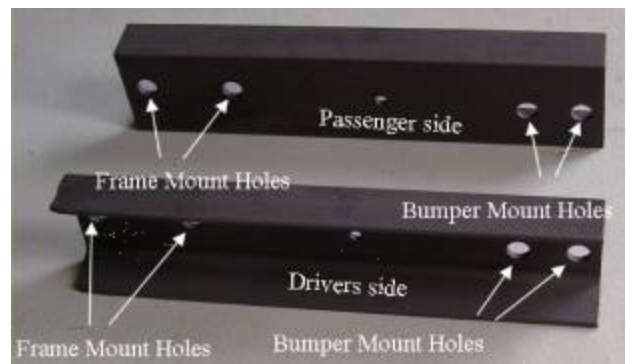

Figure 3
7. Install the corresponding **Bumper Relocation bracket** (i.e. the left **Bumper Relocation Bracket** in place of the left bumper support bracket) using the bolt assemblies and bolt holes in the frame and bumper that the original bumper support bracket used. **Figure 3** shows the orientation for each **Bumper Relocation Bracket**. Leave the nuts loose enough that the bumper location can be adjusted.